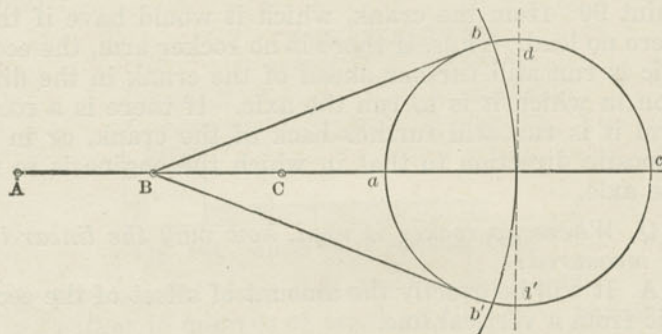

Fig. 145. Effect of Angularity of Connecting-rod.
A. When the crosshead is at *C*, the out end of the stroke (see Fig. 145) the crank pin will be at *c*, on the outboard dead center. When the crosshead is at *B*, in the middle of its stroke, the crank-pin will not be at the quarter point of its path, but at *b*. When the crosshead is at *A* or inboard stroke end, the crank pin will be at *a*, or the half point of its path; and on the return stroke, when the crosshead is again at mid-stroke, at *B*, the